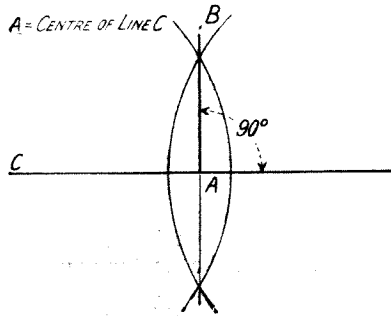

Fig. 1.—How to mark out a right-angle accurately.
overcome, but a perfectly true paper, or cardboard square, may easily be made on the lines shown in Fig. 1. First draw a horizontal line (C) and strike a radius with a pair of compasses from each end, as shown. The radius may be of any dimension greater than half but less than the full length of the horizontal line. A vertical line (B) is then drawn to the points where the radii cross. This results in a perfect right angle between the line B and the line C. This same method may be used to bisect any given line without the use of a ruler.